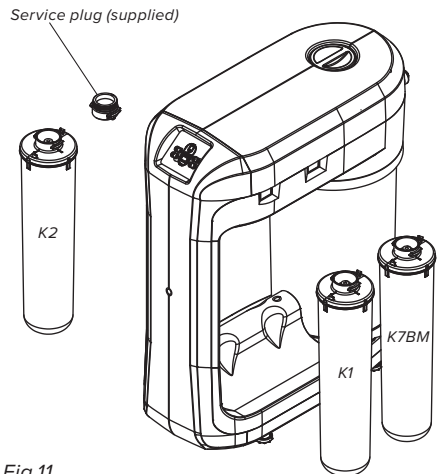

Fig.11
- Install the cartridges as shown in Fig. 11.